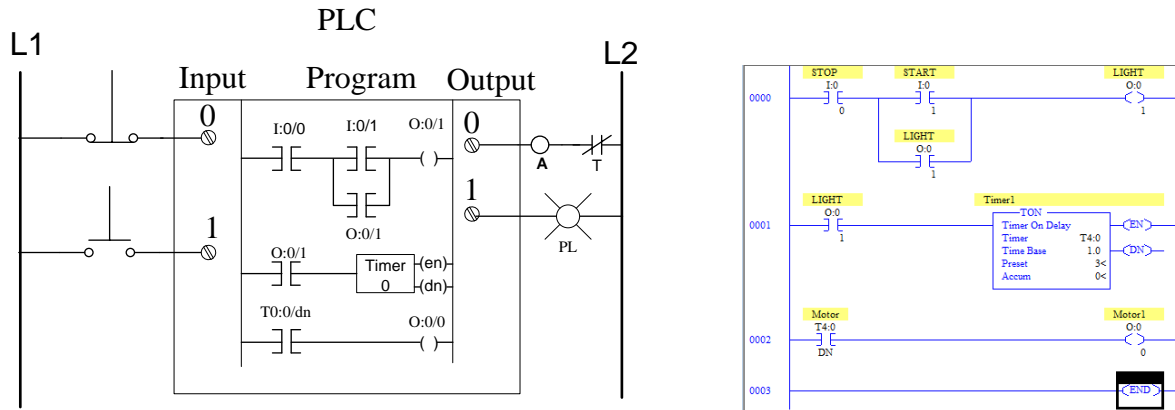

Figure 5: Modified PLC program to add a delay. Figure on right shows the actual ladder logic program
In this exercise we will assume that people around the motor must be warned with red light before the motor turns on (as in airport luggage conveyor belt). A red light should turn on 3 seconds before the motor starts. Change the ladder logic to as shown in figure 5.
12. Your diagram should look similar to the one shown in figure 5.
two inputs to the scope. Connect the input signal to the scope. Your diagram should look like the one shown in figure 5(b)
Alternatively you can plot both input and output in the same plot using multiplex box. Under signal routing library find 'Mux' block. Drag and drop mux block to modeling window and connect the signal as shown in figure 5(c).